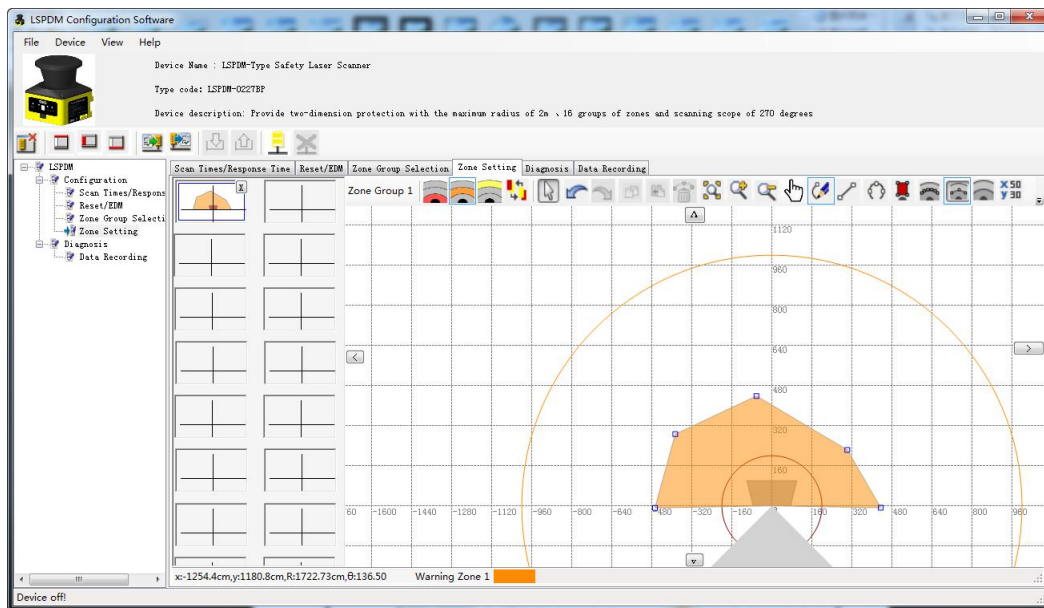

Fig.3.2.3 Draw warning area 1
Step②: Warning zone 1 configuration. Click the icon  or  to switch to warning zone 1 configuration and complete the boundary configuration. Fig.3.2.3 shows the user-defined irregular warning zone 1 boundary.